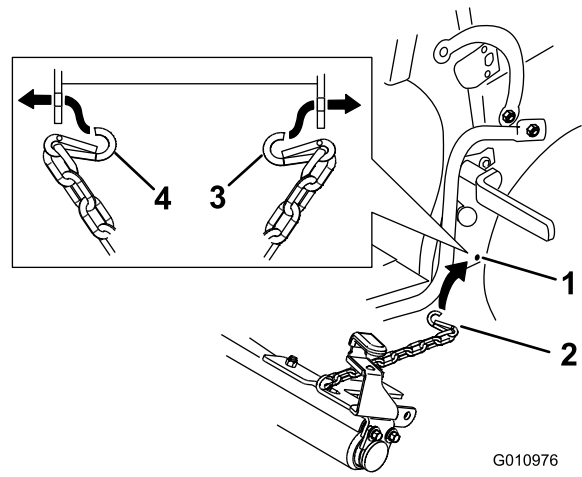

Figure 8
3. Snap the chain end into the hole in the lower front side plate of the platform. Repeat for the opposite side (Figure 8).